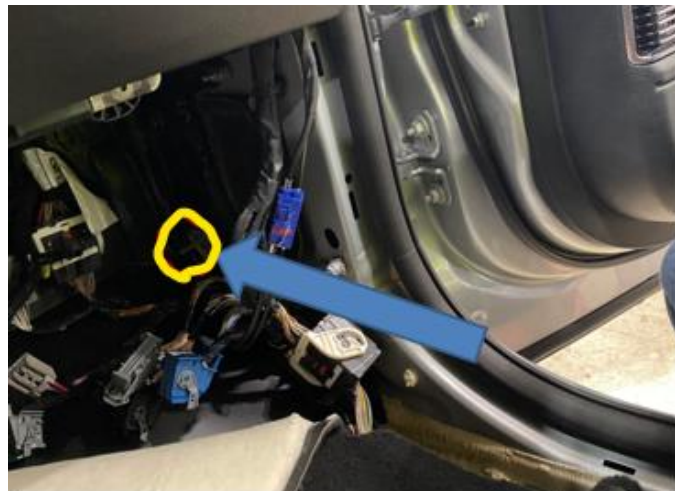

Fig 3
3. Inspect the circled area looking for the pinched line condition shown in Fig 3. Look for the air line to be trapped under the bcm lower attaching screw. If pinched in this location the line(s) (one or both) require replacement. Pinched air hoses should not be reused. The lines are serviced as a front airline bundle.